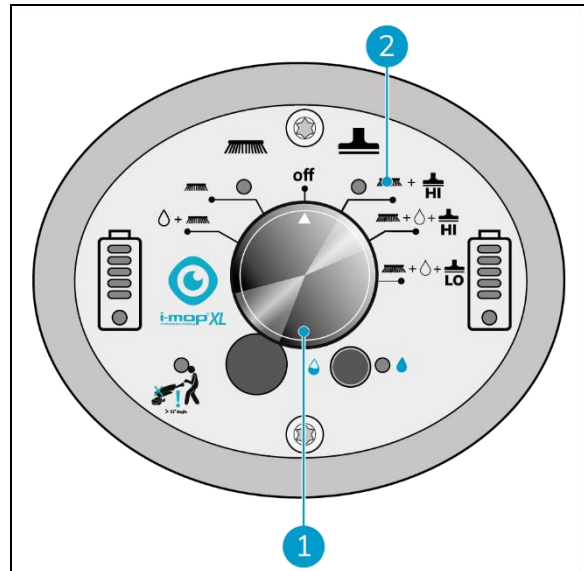

Figure 26
1. Use the i-mop XXL Pro main switch (Figure 26, pos. 1) and choose MODE 3 Brush + Dry vacuum (Figure 26, pos. 2).